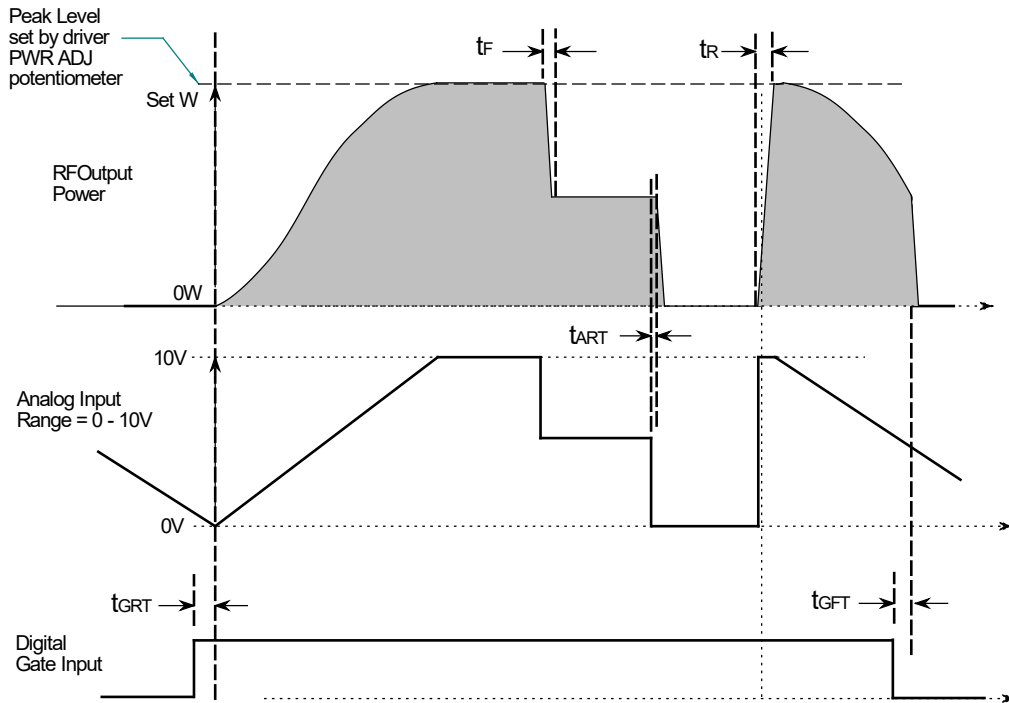

Figure 3: Typical RF Output Waveforms: Standard and Option -A models
- 3.13 The driver is now ready for use. Figures 3 and 4 illustrate typical modulation characteristics.